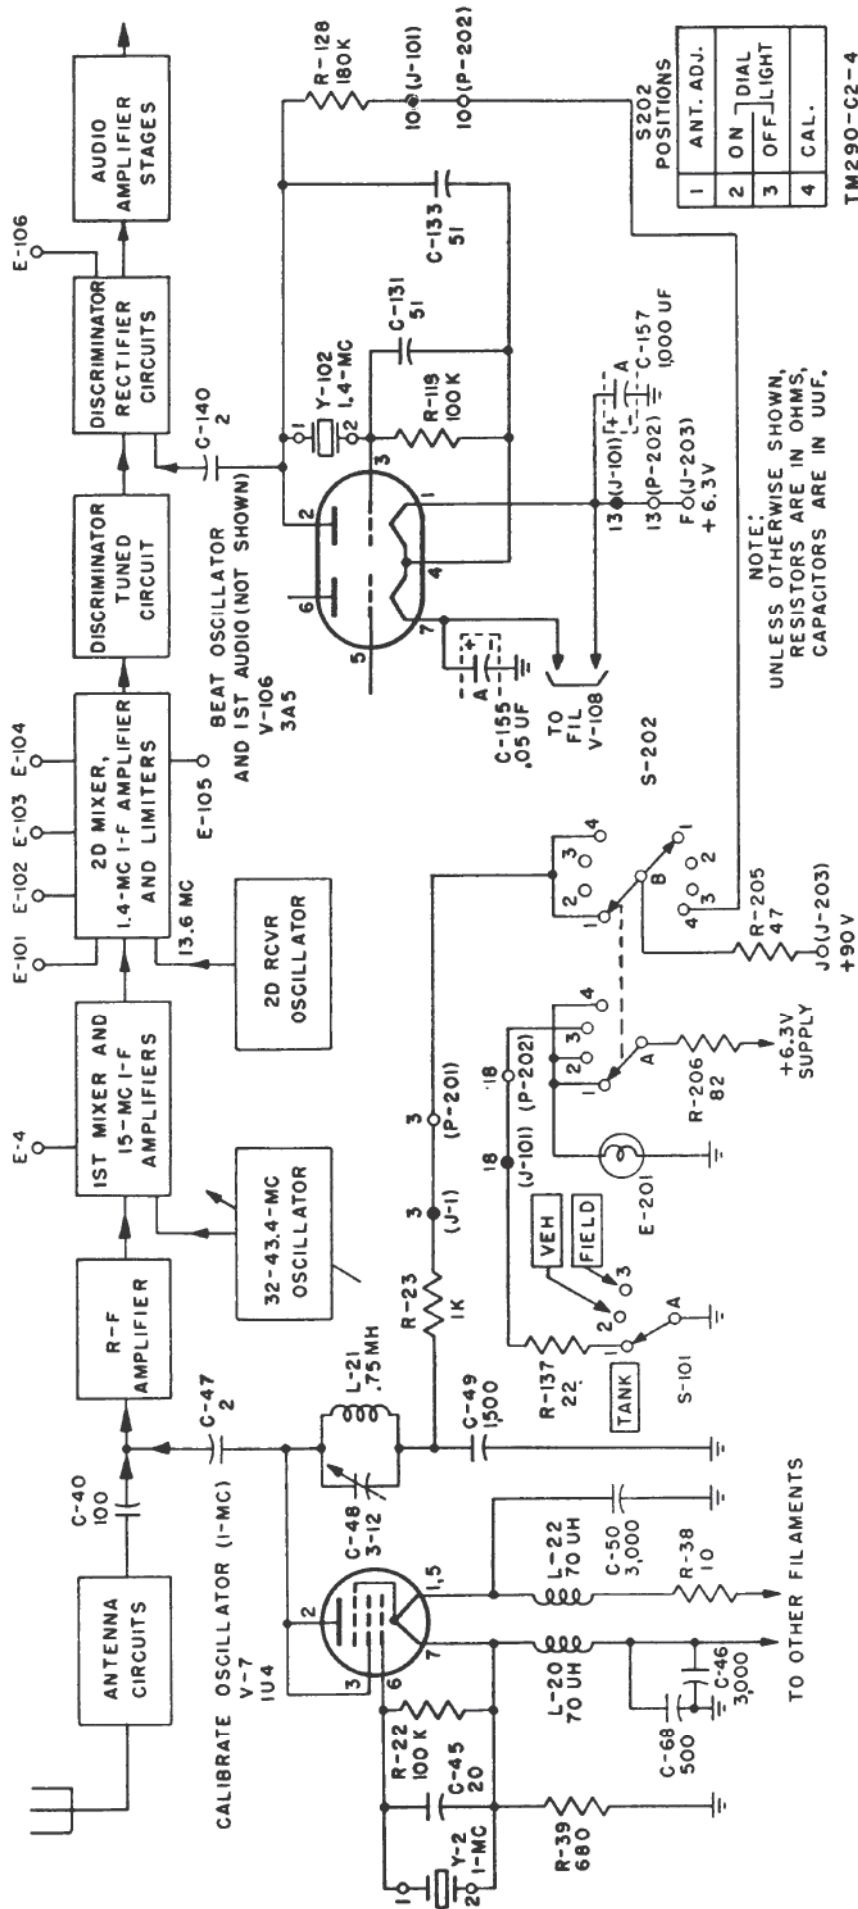

Figure 30. Receiver-Transmitter RT-70A/GRC calibrate and beat oscillator circuits, functional diagram.
c. The oscillator *grid* circuit includes grid resistor R118 and capacitor C131. In Receiver-Transmitter RT-70/GRC, the grid circuit is returned for dc to the filament (pin 1) of V106. This point is placed at RF ground potential by bypass capacitor C155A. In Receiver-Transmitter RT-70A/GRC, grid leak resistor R118 and its bypass capacitor, C131, are returned to the filament at pin 4 (fig. 30). The pin 7 end of the filament is returned to ground for RF by capacitor C115A; the pin 1 end is returned to ground by capacitor C157A.
a. The dial light circuit is shunted across the filament supply lead by contacts of ANT ADJ-DIAL LIGHT (ON-OFF)-CAL switch S202 in either one of the three positions, ANT ADJ, DIAL LIGHT ON, or CAL (fig. 30). For any one of these switch positions, the circuit extends from